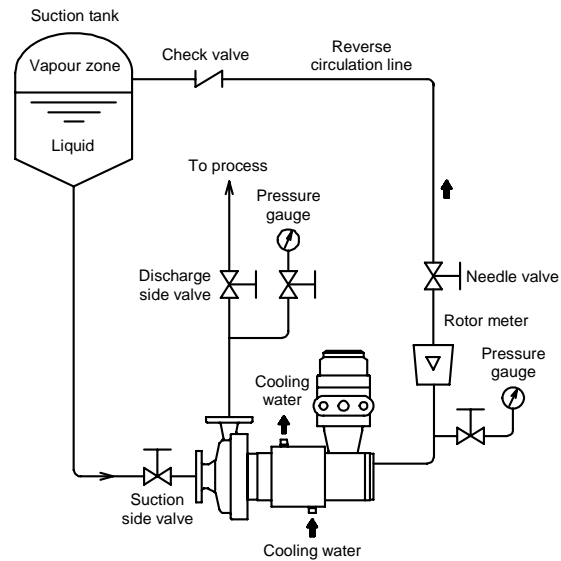

Fig. 4-4 An example of reverse circulation type
- Fig. 4-4 shows an example of a typical reverse circulation line.